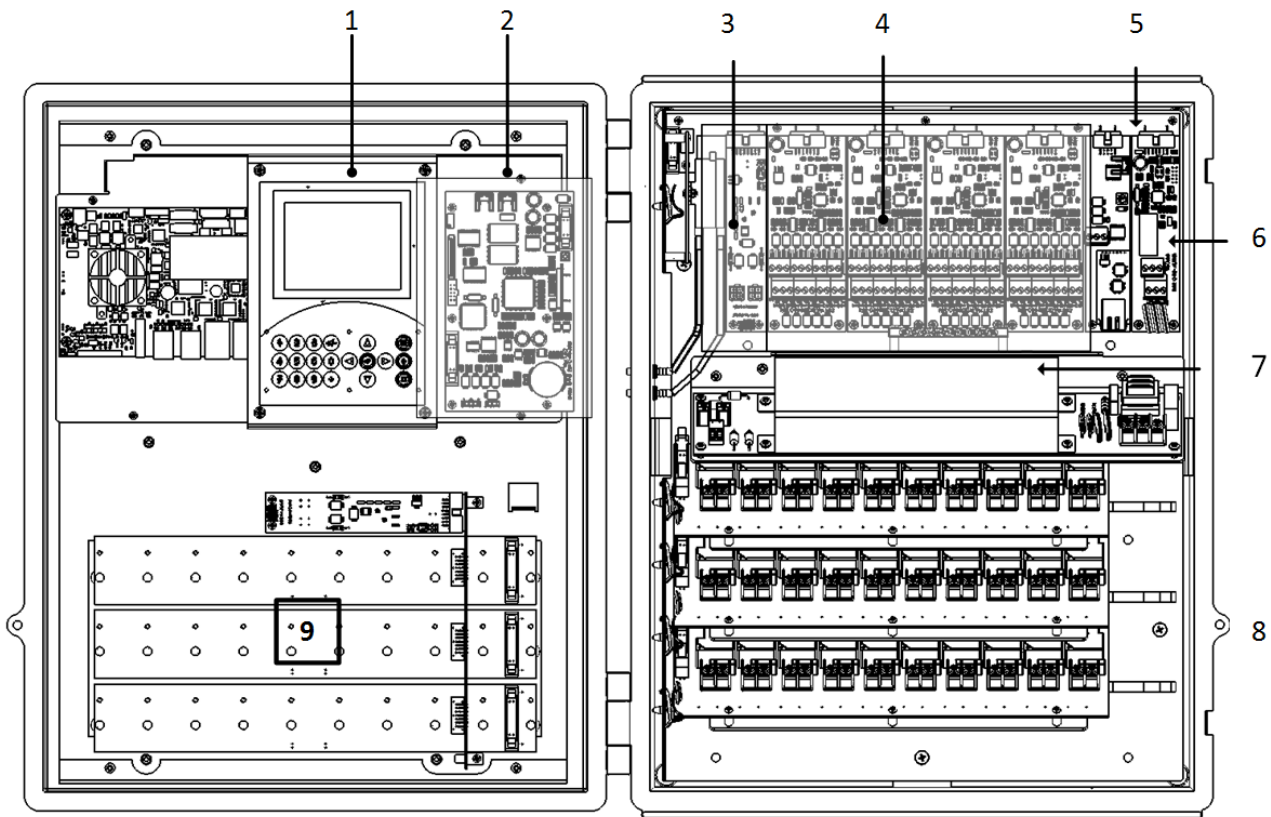
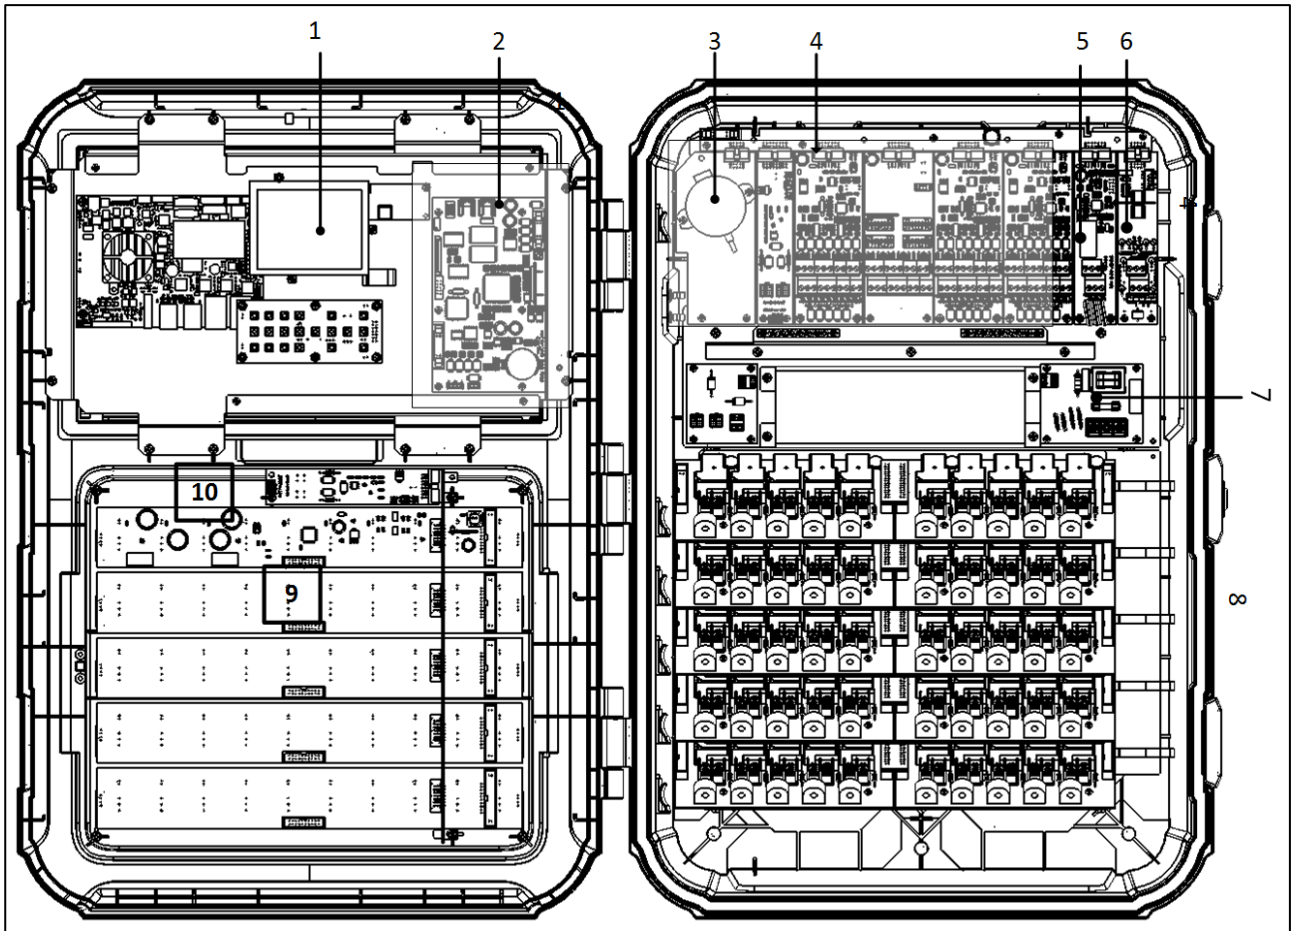

Figure 3: Platinum Pro /Platinum Touch Layout
Figure 4: Rotem Pro /Rotem One Layout
Figure 3 key
Figure 4 key
*NOTE Figure 3 and Figure 4 are example layouts. Each installation can differ.*
- Normally Open (only) sets include ten relays: Two (2) 5 x Normally Open relay cards along with a 10 relay switch card.
- One 5 x Normally Closed relay card. This card must be installed on the left side of the unit. See Figure 4.